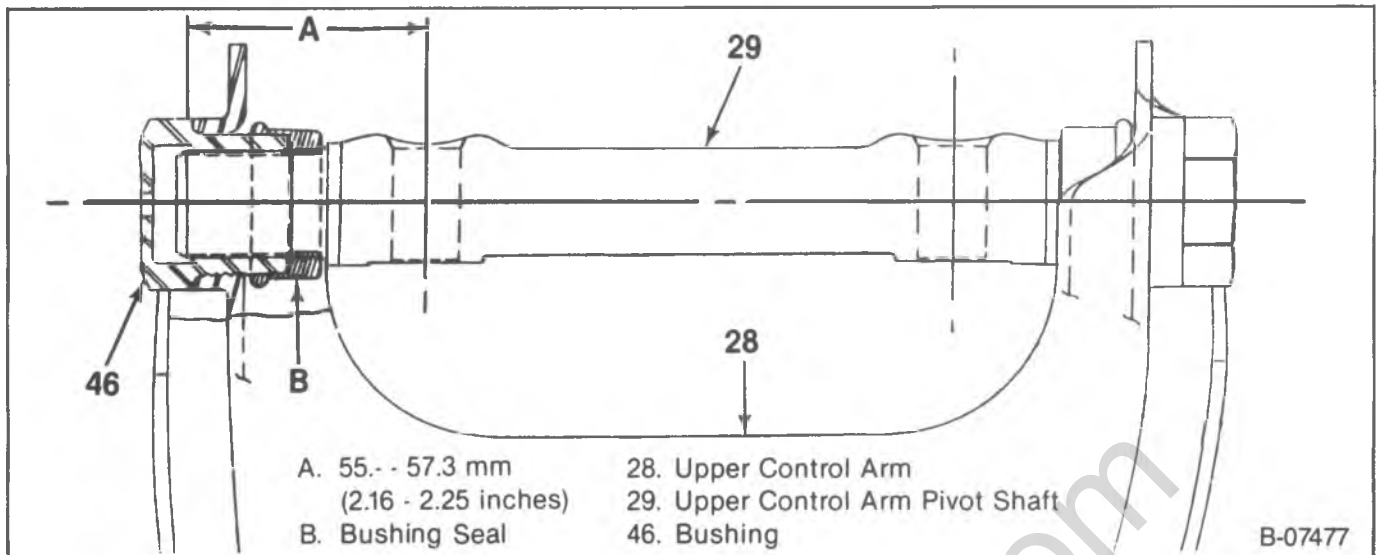

Figure 30—Centering the Upper Control Arm Shaft (R-P20/2500, 30/3500 and G30/3500 Models)
- The pivot shaft (29) must be centered in the upper control arm (28) as shown in figure 30.